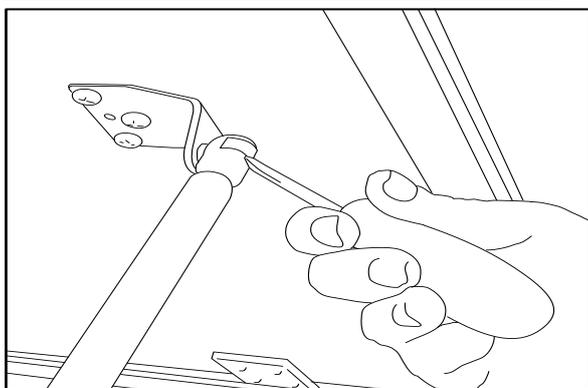

Fig. 10 - Remove gas strut
To remove the Hard Tonneau Cover from the vehicle, detach the gas struts from the Hard Tonneau Cover. This is done by inserting a small screwdriver under the metal spring clip on the strut and easing it out sufficiently to allow the strut to be popped off the ball (Refer to Fig 10). From inside of tub, remove 4 bolts from each hinge bracket.
- a. Open Hard Tonneau Cover, disconnect struts from Hard Tonneau Cover. **Refer to Fig. 10.**